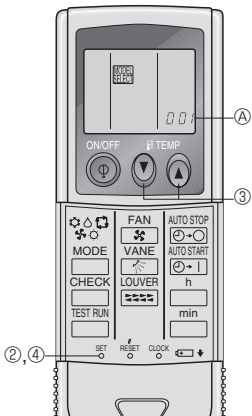

Fig. 6-8
1) Setting (Fig. 6-8)
- ① Insert batteries.
- ② Press the SET button with something sharp at the end.